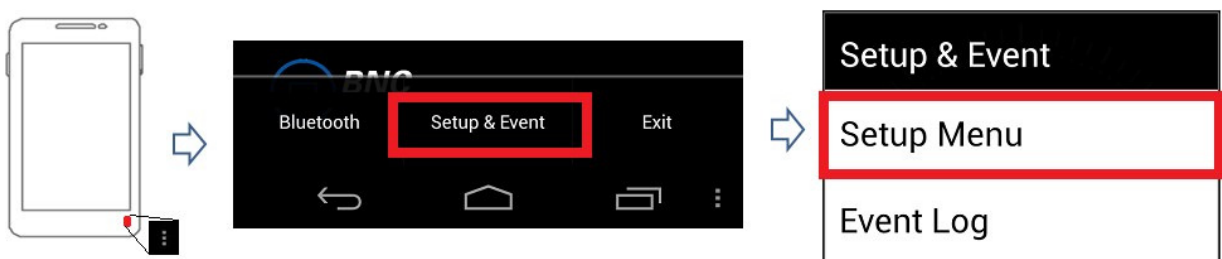

Figure 4.8. Navigating to the Setup menu
1. Touch the menu button  in the bottom right corner of the screen (Figure 4.8)